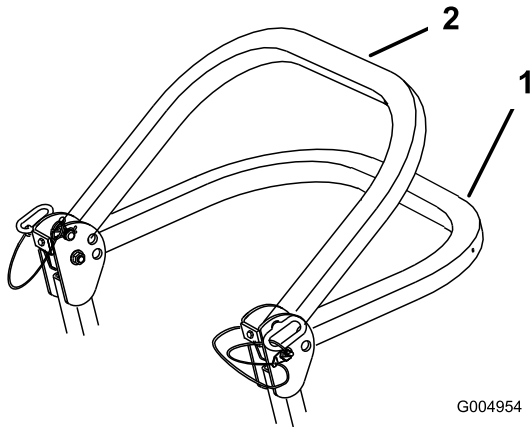

Figure 7
2. Lower the the roll bar to the down position. There are two down positions. See Figure 7 for the positions.